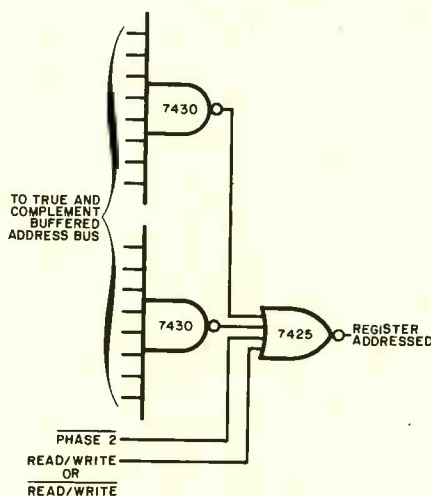

Fig. 1. Address recognizer.
The typical address recognizer shown in Fig. 1 is basically one multi-input (16) AND gate and can be used on a memo-